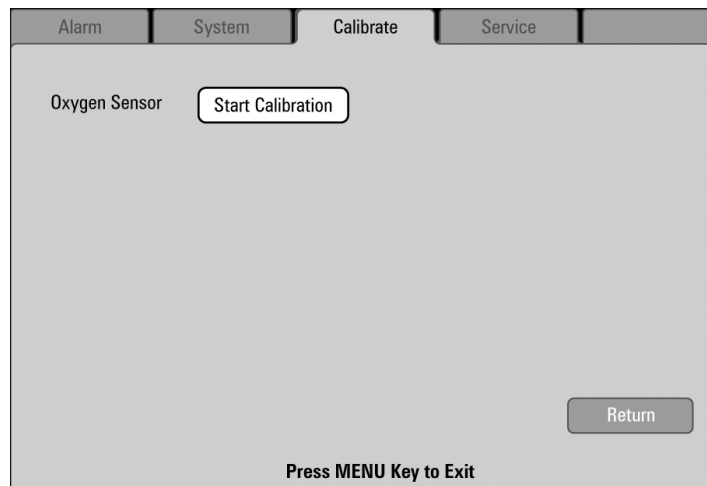

FIGURE 2-3 Calibrate Menu Tab
2. Press the **MENU** key and then use the Navigator™ Knob to scroll to the **Calibrate** menu tab (shown in FIGURE 2-3). Select the **Start Calibration** button.